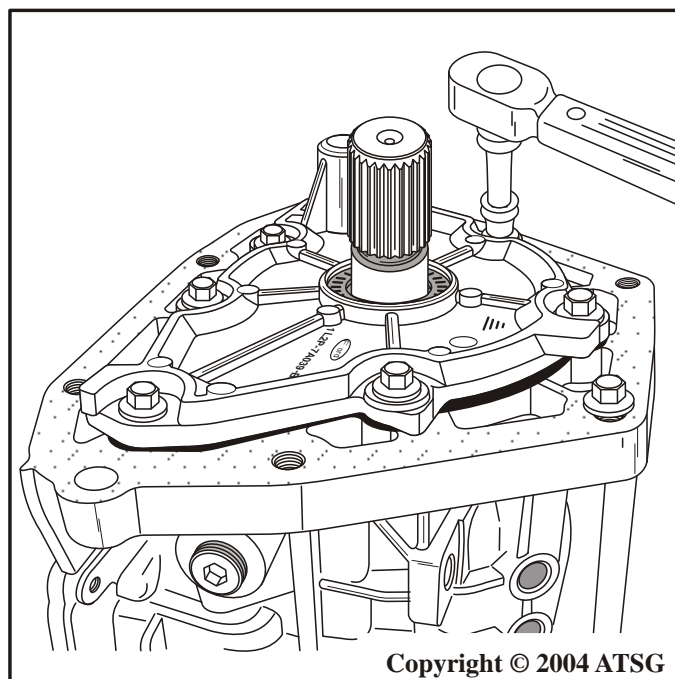

Figure 138
6. Install the seven 4WD adapter housing bolts and torque bolts to 39 N•m (29 ft.lb.), as shown in Figure 138.